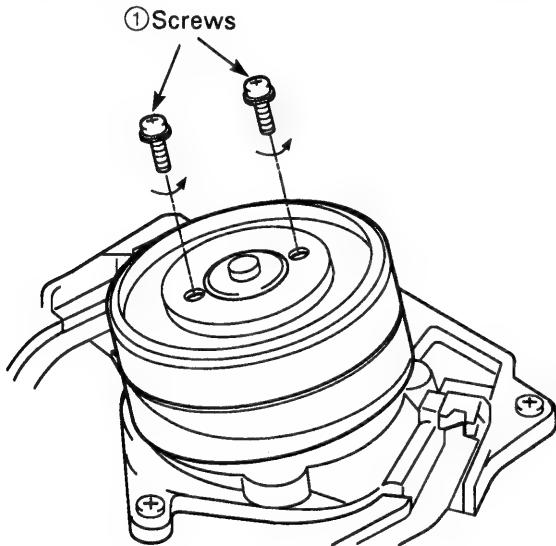

Fig. 3-5-1
(UPPER DRUM) (See Figs. 3-5-1, 3-5-2, 3-5-3, 3-5-4)
- 1) Remove the two screws ① (See Fig. 3-5-1).